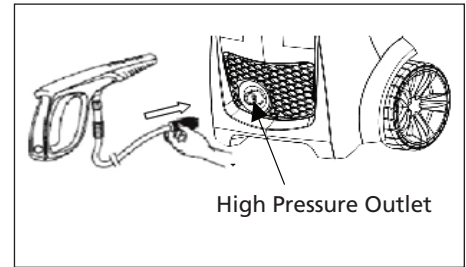

Figure 16 - Attach high pressure hose to high pressure outlet
5. Attach high pressure hose to high pressure outlet (see Figure 16).
10. Attach high pressure hose to high pressure outlet (see Figure 16).